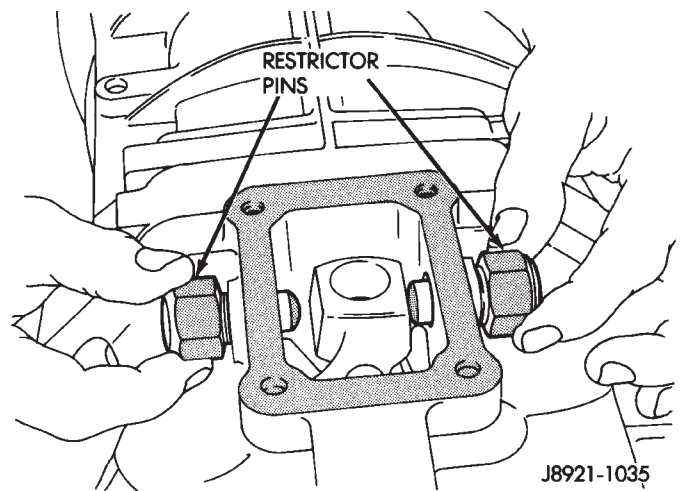

Fig. 46 Install Shifter Restrictor Pins
(15) Install shifter restrictor pins in shift tower and tighten to 27 N·m (20 ft. lbs.) (Fig. 46).